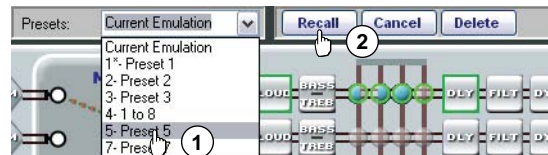

Figure 5-16 — Recalling a preset
1. Select the desired preset in the Presets drop-down menu (figure 5-16).